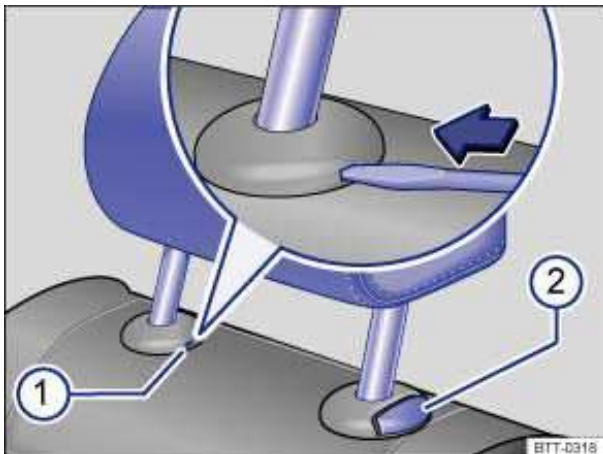

Fig. 43 Removing the rear head restraints.
- If necessary, press the flat blade of the screwdriver from the vehicle tool kit into the slit of the trim cap ⇒ fig. 43 \(1\) in the direction of the arrow and hold it in this position.